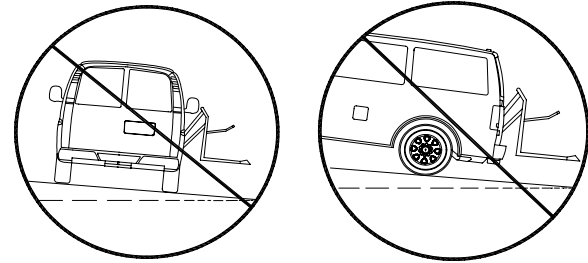

FIGURE 2-1: DO NOT DEPLOY LIFT WHEN VEHICLE IS ON SLOPED GROUND
- Refer to **Figure 2-1**. Deploying lift when vehicle is on sloped ground is hazardous. Always operate lift with vehicle parked on level ground.